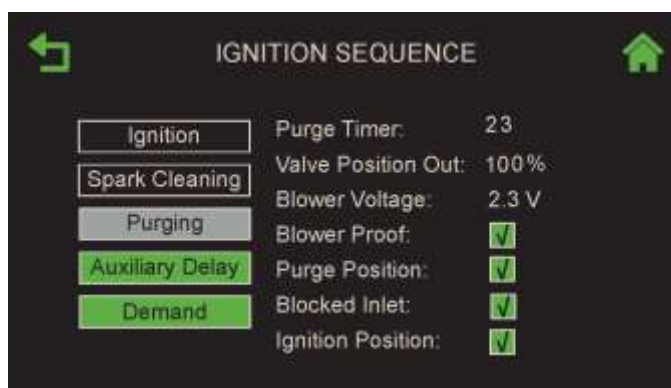
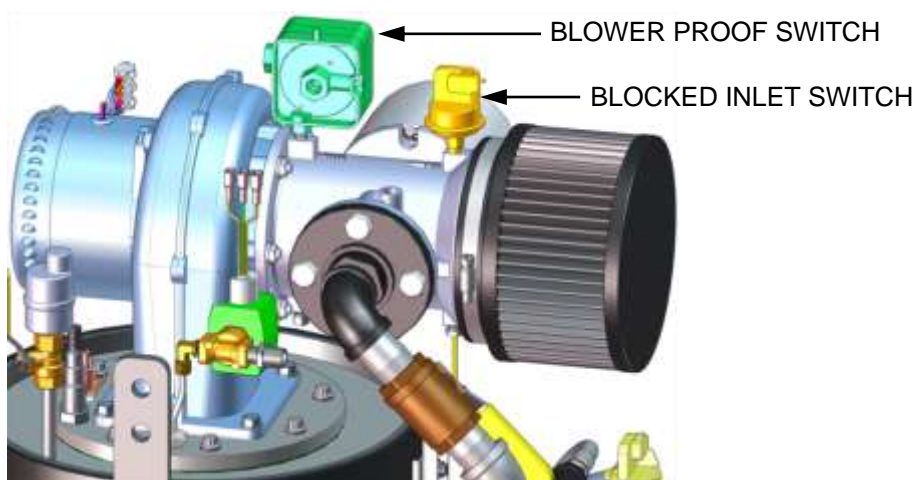

Figure 3-3: Ignition Sequence Screen – Purging
Figure 3-4a: BMK750 & 1000 Blower Proof Switch
5. Next, the Blower Proof and Blocked Inlet switches close (Figure 3-4a and 3-4b). On the Ignition Sequence screen the **Purging** indicator turns grey while purging is underway (Figure 3-3) and **Purge Timer** displays the purge cycle's elapsed time in seconds.
- b) The Spark Cleaning cycle begins (default duration = 7 sec.) and the Ignition Sequence screen's **Spark Cleaning** indicator (Figure 3-3) turns grey. This cycle turns on the ignition transformer to produce a spark (with no gas flowing) to remove moisture and carbon buildup from the spark element. For the duration of this cycle, the Controller displays the **Cleaning Igniter** status message.
- c) Following the Spark Cleaning cycle, power is applied to the gas Safety Shut-off Valve (SSOV). When the SSOV indicates the Gas Valve is OPEN (POC) and the Ignition Sequence screen's **Ignition** indicator (Figure 3-3) turns grey.